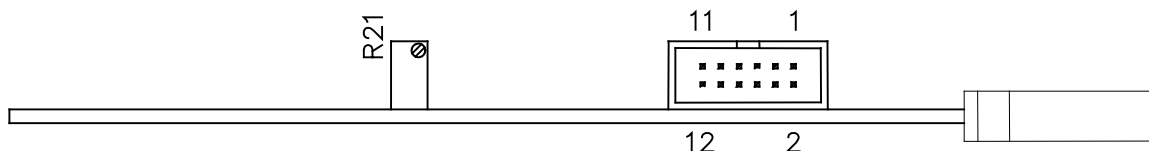

Figure 6.3
2. Connect the oscilloscope to the questionable waveform test points. See Figure 6.3.
To adjust the Integrator PC Boards, refer to Figure 6.3 and proceed as follows: